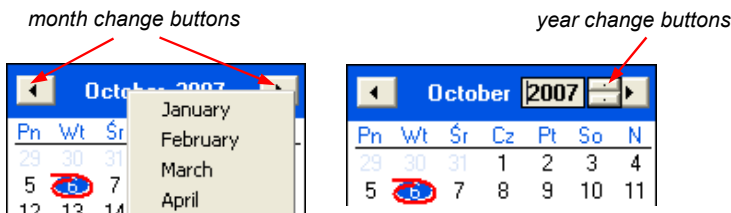

Figure 4.6. Changing months and year
- 2) The date can be change by clicking onto any day in the calendar. Buttons at the top part of the calendar are used to change months (Figure 4.6). After clicking on the current year located to the right from month’s name an edition window and buttons for changing the year are displayed (Figure 4.6).